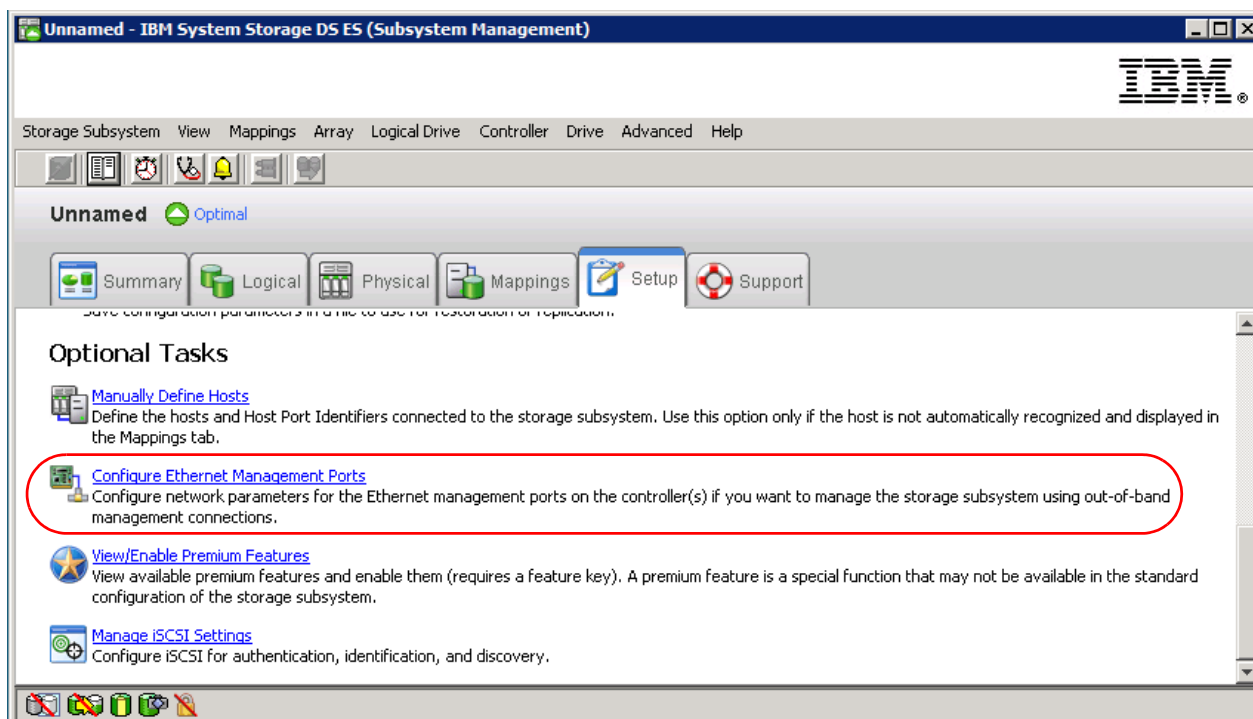

Figure 3-24 Changing the network configuration in the Subsystem Management window
- f. Now we are connected to the DS5000 storage subsystem, but with the default IP addresses. We need to change the address to your specific ones. In the Subsystem Management window, select the **Setup** tab, and then scroll down to select **Configure Ethernet Management Ports**, as shown in Figure 3-24.